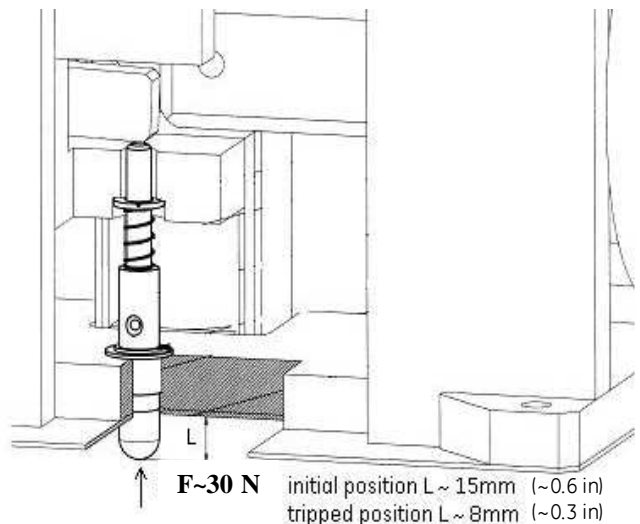

Fig. 10a Forced tripping release
- Optionally, the forced tripping release (FT) can be installed in the breaker [Fig. 10a]. This unit mechanically trips the breaker, by pressing the pin against the bottom plate. Force required to trip the breaker is about 30N (~7ft-lb). The tripping pin position is as on Fig. 10b.